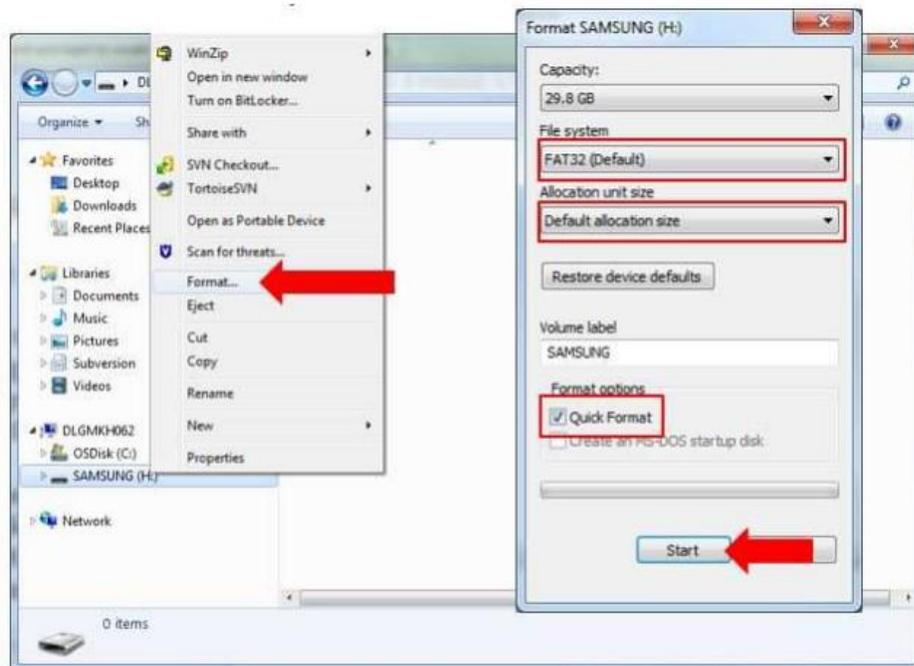

Figure 1 – Formatting the USB Flash Drive
2. Perform the following steps to format the USB flash drive (Figure 1):